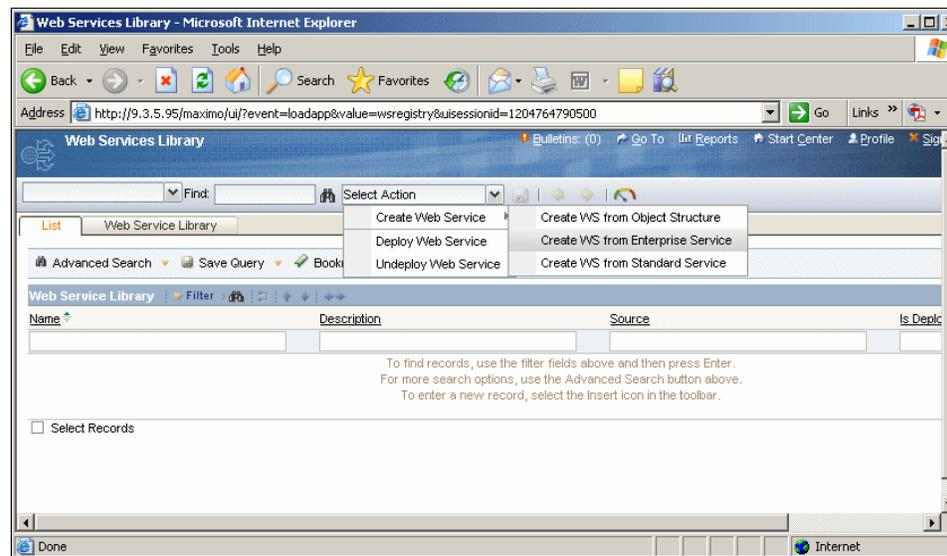

Figure 2-42 Creating a Web service
1. Create a new Web service by clicking **Select Action** → **Create Web Service** → **Create WS from Enterprise Service** as shown in Figure 2-42.